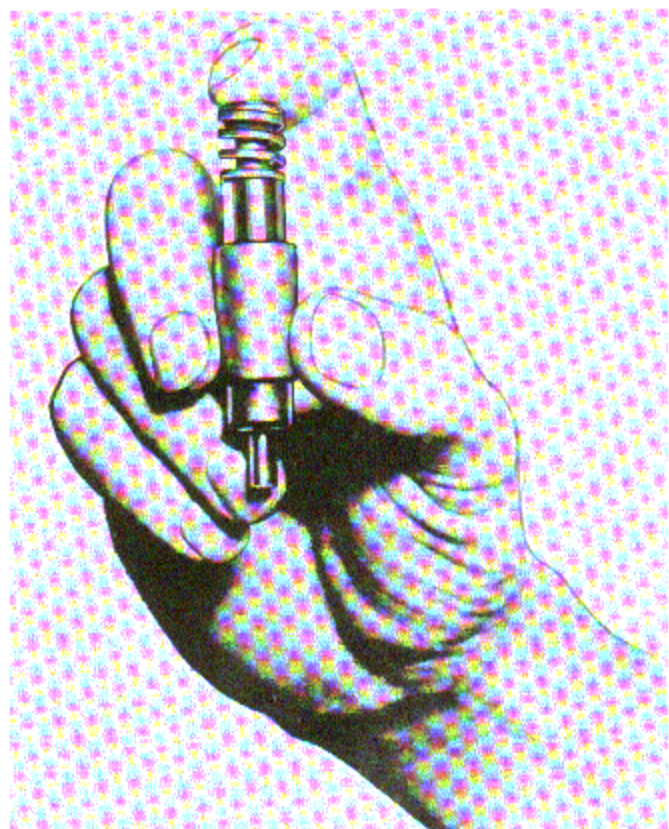

Figure 6-13. Checking Hydraulic Tappet Plunger and Cylinder Assembly for Leaks
- Check each hydraulic tappet cylinder and plunger assembly to see that the ball check valve is not leaking. A leaking ball check valve will make itself evident when the unit is checked as follows: dip the plunger in light machine or engine oil; hold the lifter cylinder between the thumb and middle finger in a vertical position with one hand; then place the plunger in position so that the plunger just enters the lifter cylinder. (See figure 6-13.) Depress the plunger